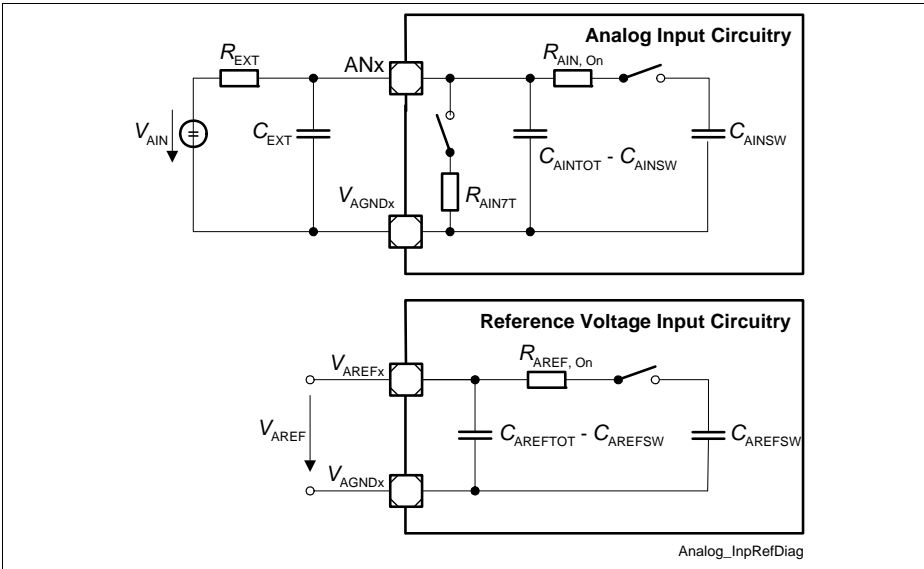

Figure 20 ADC0/ADC1 Input Circuits
- 15) For the definition of the parameters see also Figure 20.